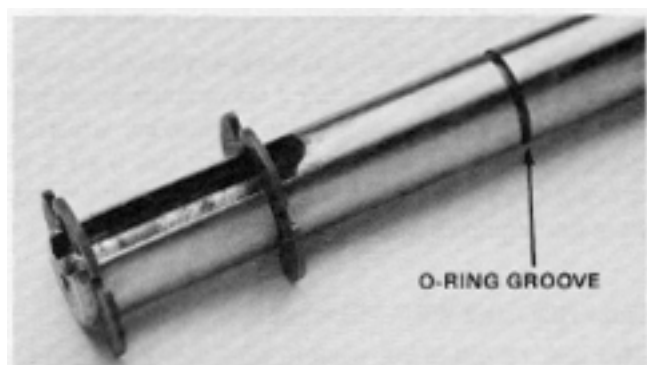

Figure 55
6. Check the innermost groove on the output shaft which is located 5.7 cm (2-1/4") in from the end of the shaft) making sure that the O-ring seal is present and in tact. This seal is important to keep grease in and contaminants out. Replace if necessary. See Figure 55.